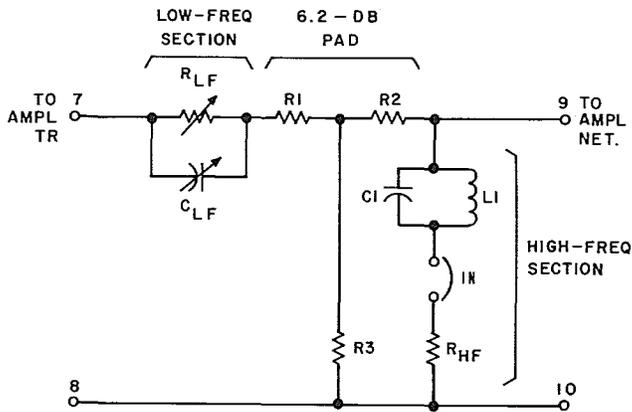

Fig. 2—359A Equalizer—General Circuit Configuration
3.01 The general circuit configuration of the 359A equalizer is illustrated in Fig. 2. Resistor R_{LF} and capacitor C_{LF} make up the series arm low-frequency equalizing section; inductor L_1 , capacitor C_1 , and resistor R_{HF} make up the shunt arm high-frequency section; and resistors R_1 , R_2 , and R_3 make up a 6.2-dB pad which reduces interaction between the high- and low-frequency sections.